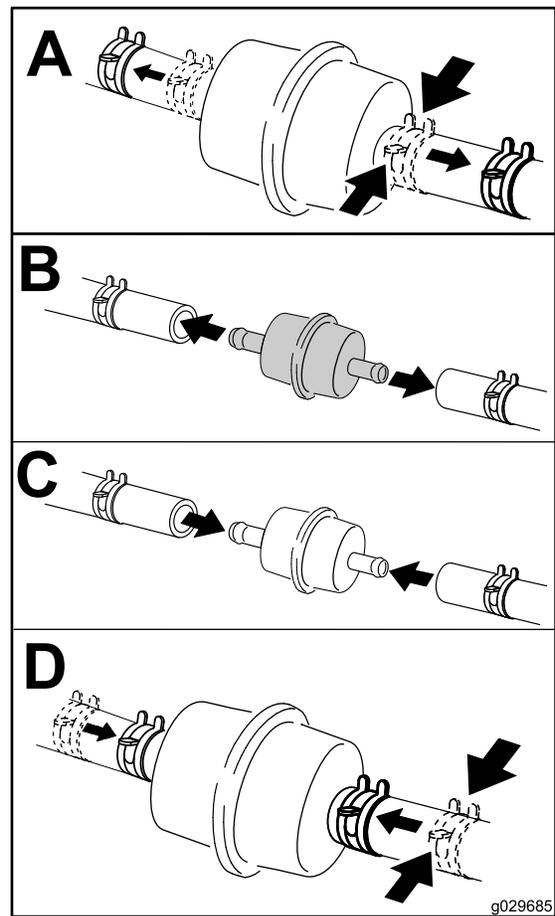

Figure 46
5. Replace the fuel filter (Figure 46).